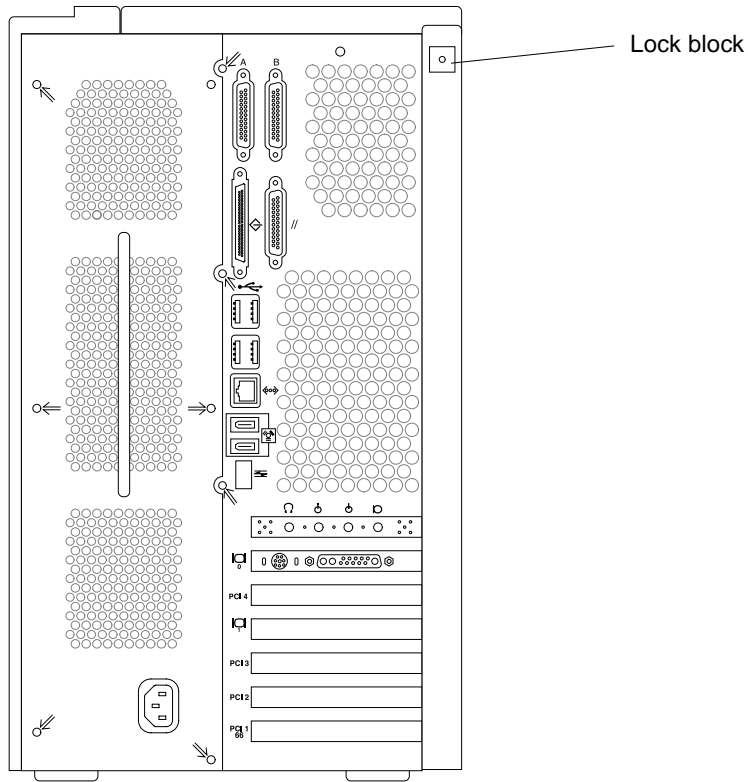

FIGURE 9-2 Lock Block Location
6. Replace the lock block (if necessary) (FIGURE 9-2).